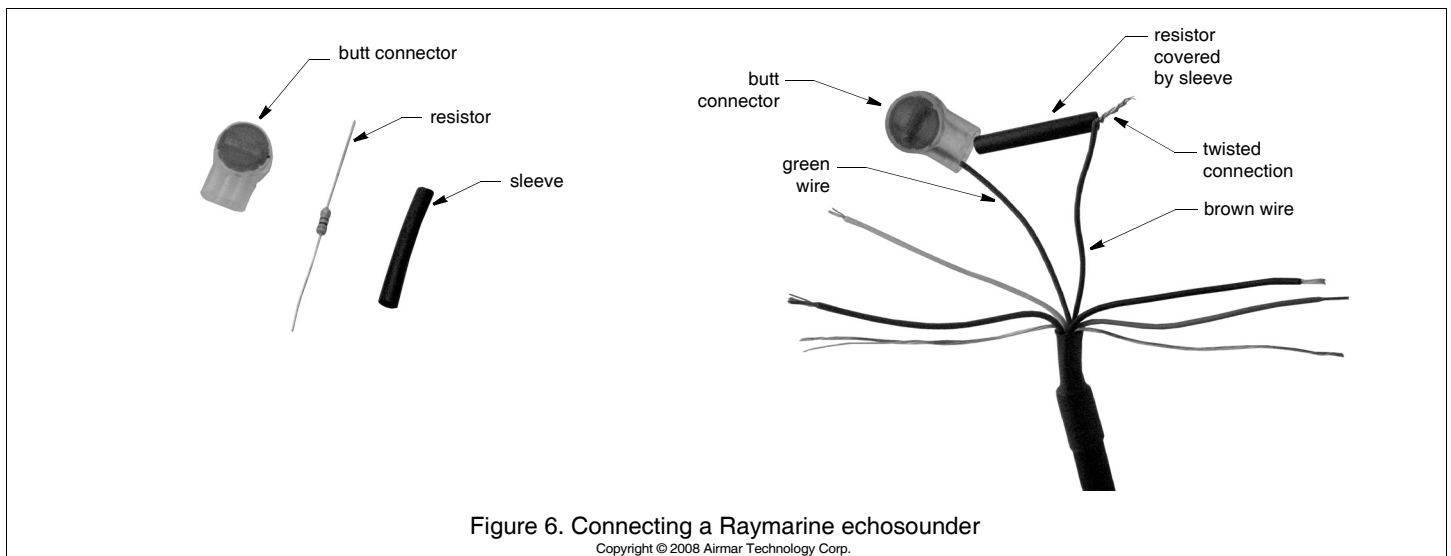

Figure 6. Connecting a Raymarine echosounder
2. Connect the green wire and one resistor by inserting the end of each into separate holes in the butt connector (Figure 6). With the wires pushed tightly against the far inside wall of the connector, lightly squeeze the button with slip-joint pliers until it depresses. Gently tug on the wire and the resistor to ensure that they are securely connected.